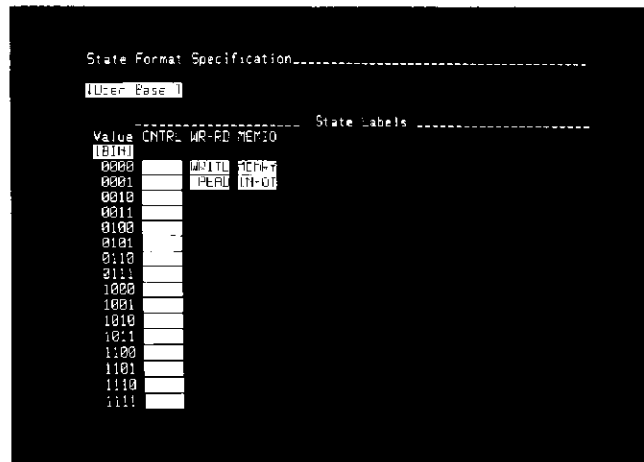

Figure 3-25. State User Base Menu Setup
- 11 Press the NEXT[] key twice to obtain the [User Base] display. (See figure 3-25.) This display will show every label that is composed of four or less bits. Under each label will be bright fields, one bright field for each value which can be found on the label. You can define a descriptive word to be shown in place of each of the values by typing that name into the associated bright field.